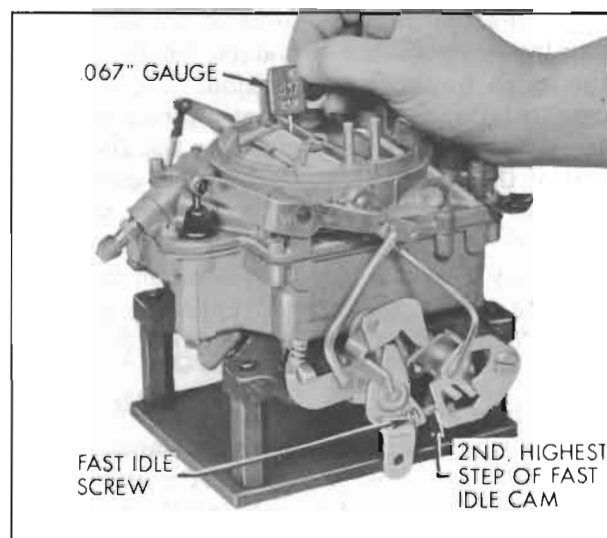

Figure 3-82—Checking Fast Idle Cam Adjustment
1. Close throttle so that fast idle screw contacts second highest step of fast idle cam with side of screw against rise to high step of cam, then check clearance between choke valve and air horn dividing wall using .067" Gauge (No. 51 drill). See Figure 3-82.